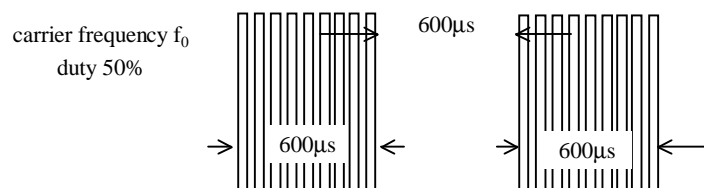

Fig 1. Burst Wave
- (1) Measuring placeIndoor without extreme reflection of light.
- (2) Ambient light source... Detecting surface illumination shall be 200±50Lux under ordinary hite fluorescense lamp of no high frequency lighting.
- (3) Standard transmitter ... Burst wave indicated in Fig 1. of standard transmitter shall be arranged to 50mVp-p under the measuring circuit specified in Fig 2.